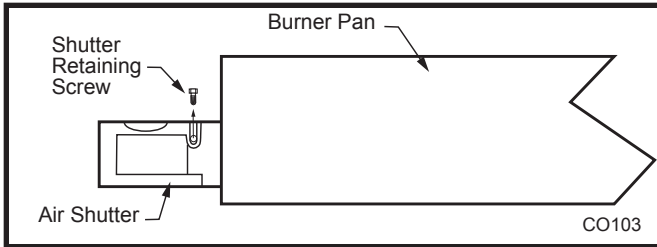

Fig. 26 Remove air shutter from burner pan.
4. Remove both air shutters from burner pan by removing shutter retaining screw then air shutter. (Fig. 26)